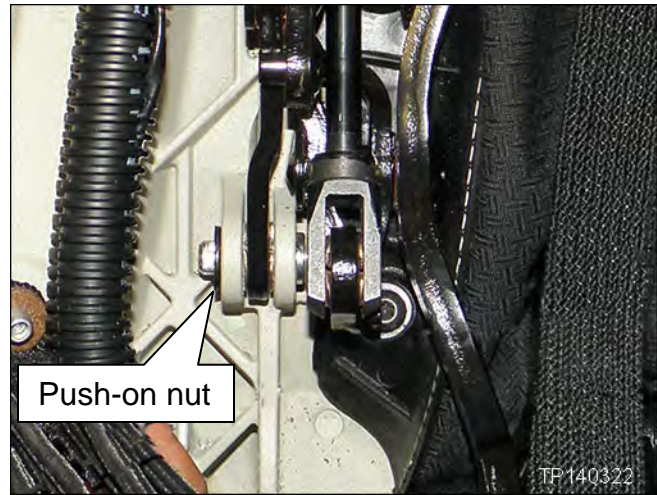

Figure A28
15. Remove the pin shown in Figure A28 as follows: